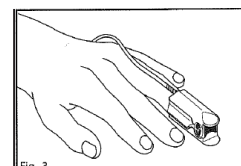

Fig. 3
The label on the right side of the device, surrounding the SpO₂ probe connection point, will display either Masimo or Nellcor (see Figure 3).
3. Orient the sensor so that the cable will be running towards the top of the patient's hand (as shown in (Fig. 3 of 5). Connect the sensor connector to a patient cable.